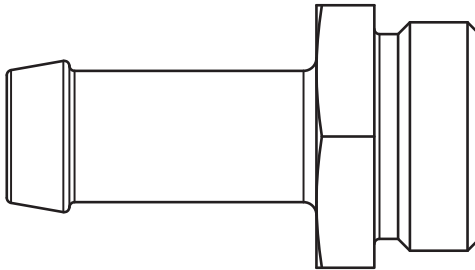

Figure 3 - OB-10-YY Fitting Style
- SAE -10 ORB to hose barb, shown in Figure 3: